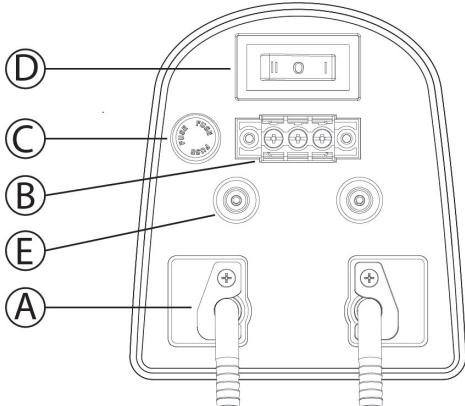

figure 1
- 1 Loosen the fitting lockers (A) located on the rear cover of each bowl equipped with Autofill Device and connect the remote fill system using a 1/4" fitting suitable to the purpose. Tighten the fitting lockers (see figure 1).